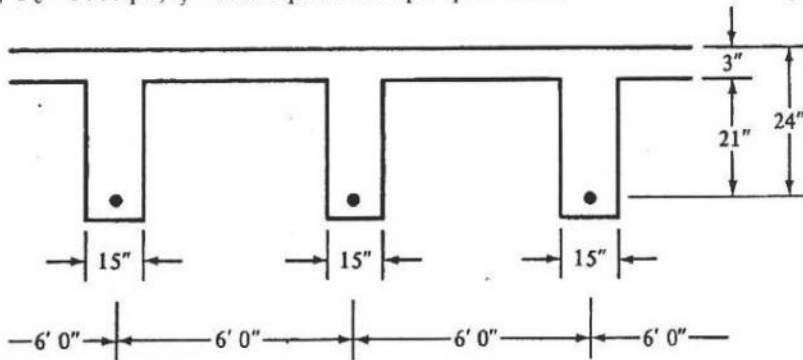

Fig 3
b) What is the purpose of Strength reduction factor (ϕ)? Why ϕ is lesser for shear than bending? (2)
c) Calculate the value of β_1 , if (i) $f_c = 6000$ psi and (ii) $f_c = 3000$ psi. (2)
3. Design a T beam for the floor system shown in Fig 3. Given, $M_D = 200$ k-ft, $M_L = 425$ k-ft, $f_c = 3000$ psi, $f_y = 60000$ psi and simple span = 18 ft. (10)